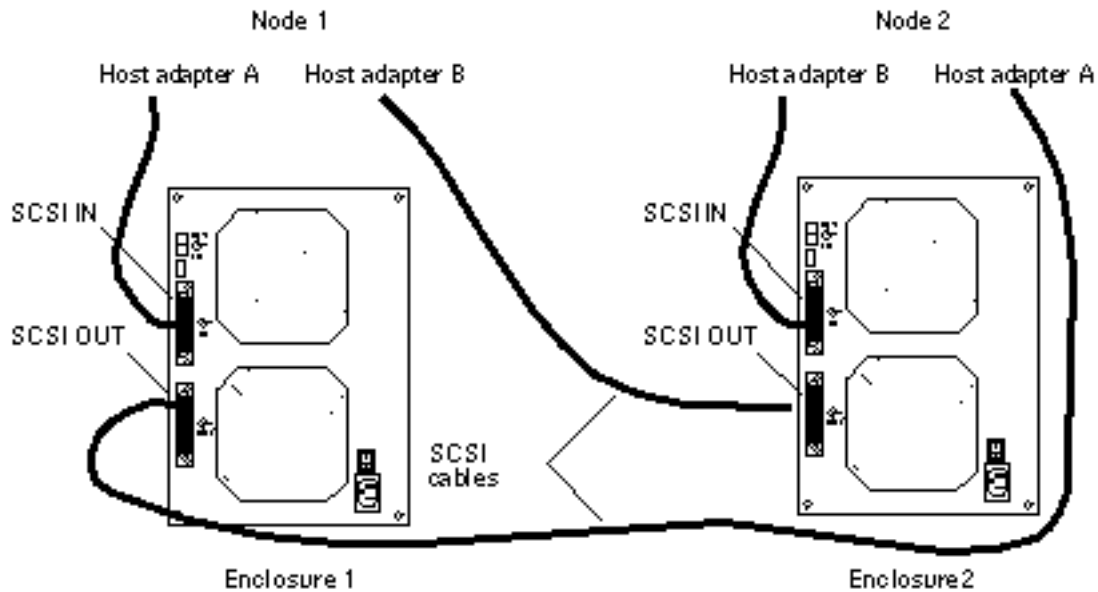

Figure 4-1 Example of a StorEdge MultiPack enclosure mirrored pair
3. Connect the cables to the enclosure, as shown in Figure 4-1.